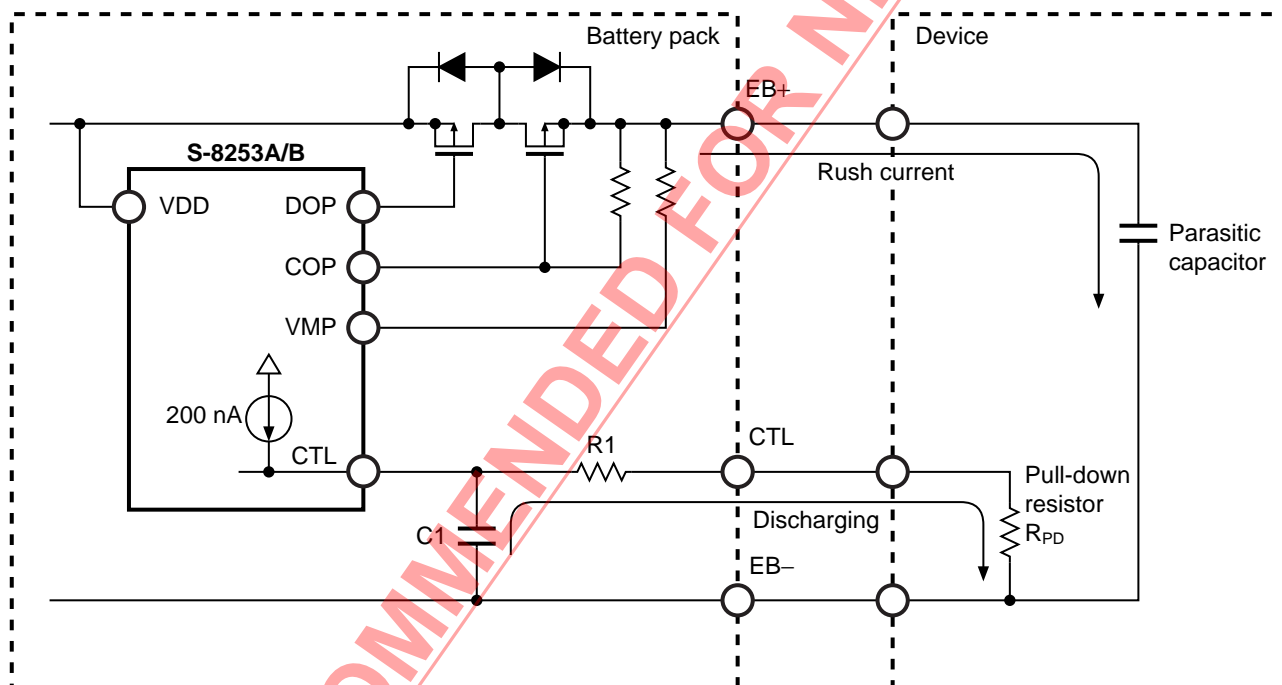

Figure 15
- In case of designing a circuit by using the CTL pin, as seen in **Figure 15**, note that discharging may stop during connecting a battery pack and the device.
As seen in **Figure 15**, before a battery pack is connected to the device, the battery pack may be in the charge / discharge inhibited status in which the CTL pin is internally pulled-up. From this status, if connecting the battery pack to the device, the CTL pin will be pulled-down in a time-constant $C1 \times (R1 + R_{PD})$ by a pull-down resistor in the device. If the CTL's potential reaches $V_{CTLH} < V_{CTL} < V_{CTLL}$, the battery pack goes in the delay time-shortening status so that it releases charging and discharging, hence it starts charging a parasitic capacitor in the device. In this case, if the rush current, which makes the S-8253A/B Series to detect the overcurrent detection voltage 3 (V_{IOV3}), flows into the device, the overcurrent detection delay time 3 ($t_{IOV3} = 300 \mu s$ typ.) will be shortened. So that the battery pack goes in the overcurrent status in several $10 \mu s$. However, the battery pack goes in the normal status by connecting the device to the charger.